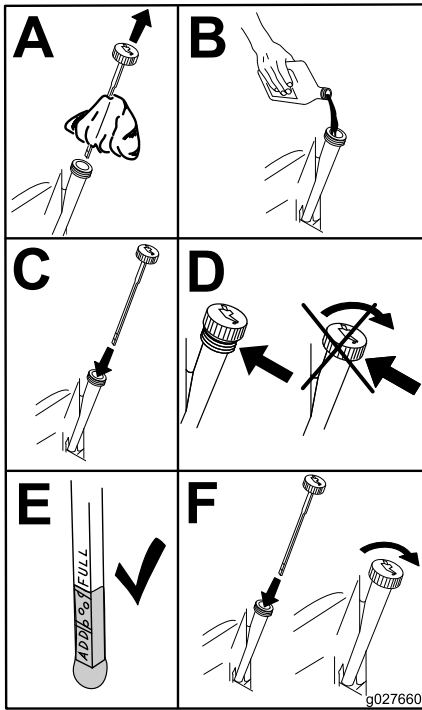

Figure 54
5. Slowly pour approximately 80% of the specified oil into the filler tube and slowly add the additional oil to bring it to the **Full** mark (Figure 54).